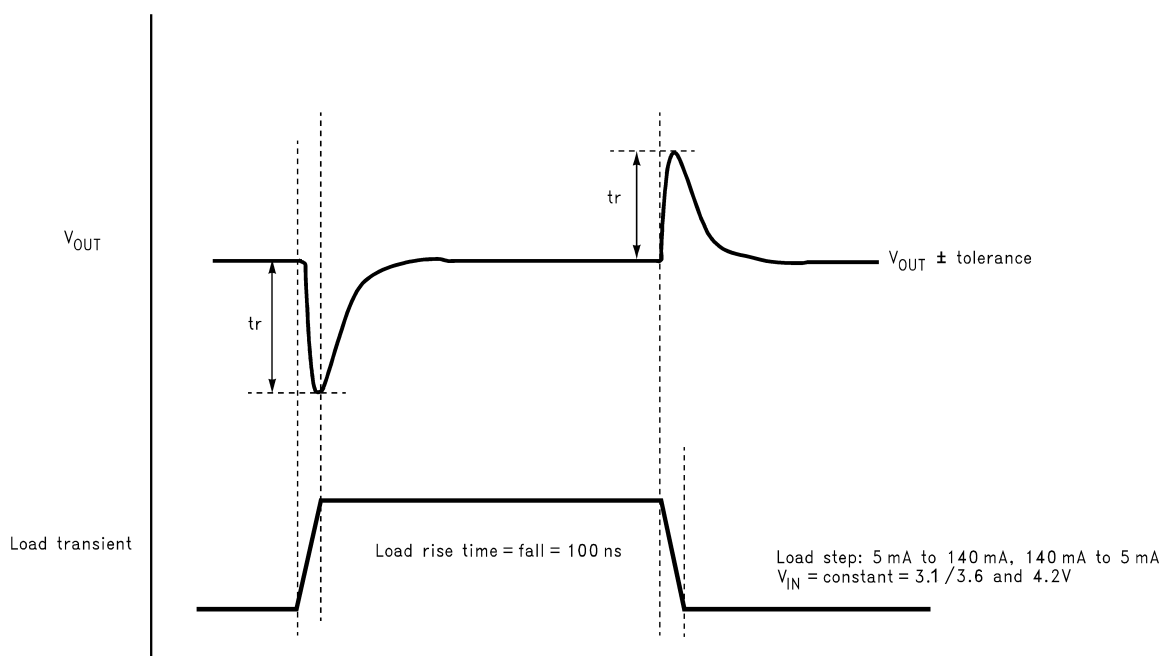

Figure 5.
(7) Load Transient response requirement. See Figure 5.
(8) During transient recovery, output voltage should not be oscillating.